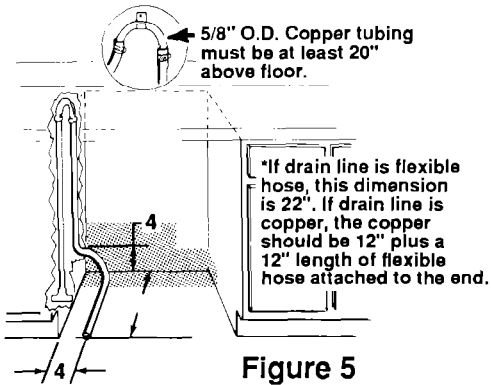

Figure 5
- If the drain is routed to a connection point less than 20" above the floor, the drain line must form a loop 20" above the floor. See Figure 5, Page 4.